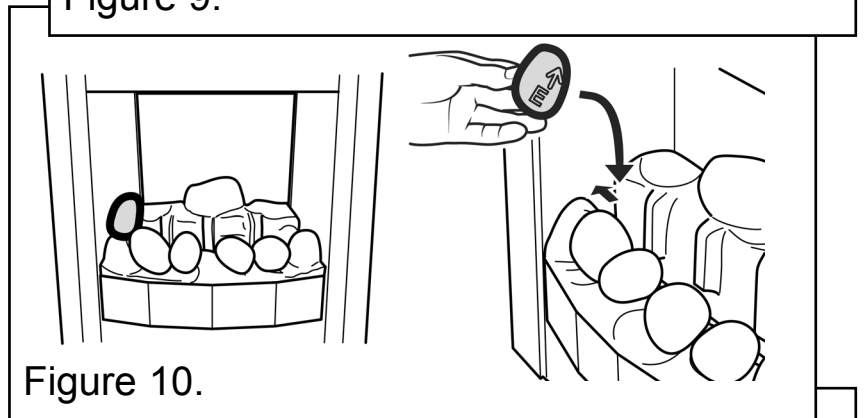

Figure 10.
7. Hold pebble 'E' upright with the arrow pointing to the top. Place pebble 'E' between the front and rear base pebbles. It should rest against the side of the firebox. (See figure 10).